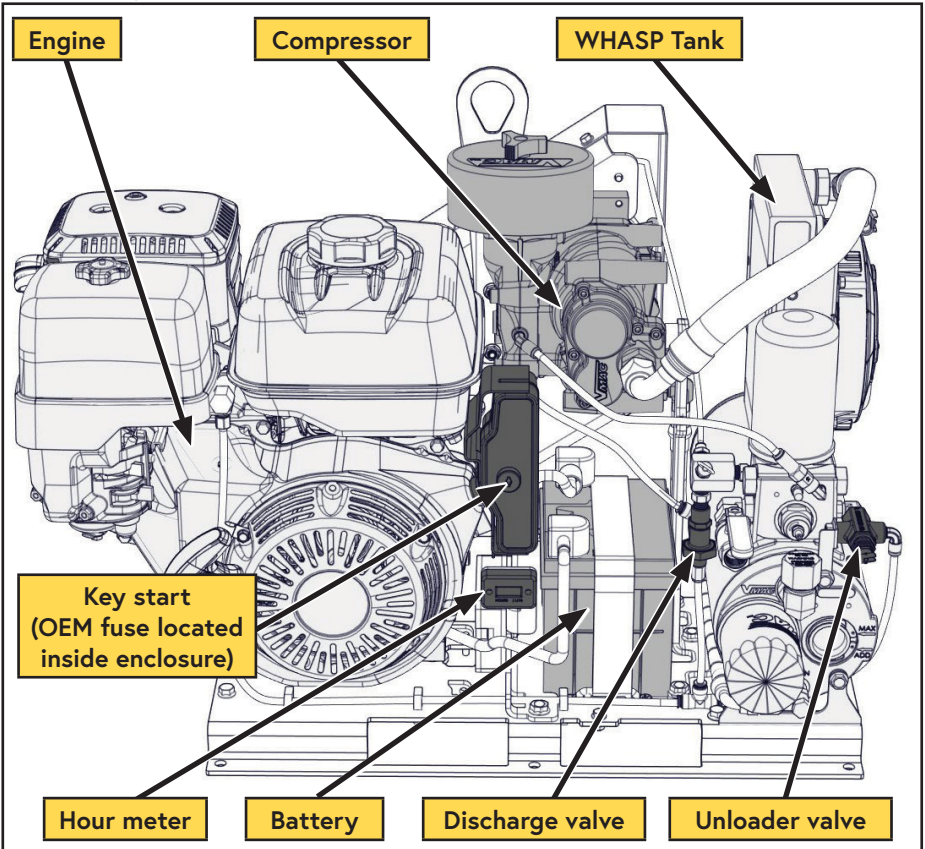

Figure 6 — System overview (shroud removed for clarity)
## System Components (Front) (Figure 6)
- The unloader valve should be manually activated to aid start up; this will reduce the load on the compressor, resulting in less load on the engine during warm up (Figure 6 on page 21).